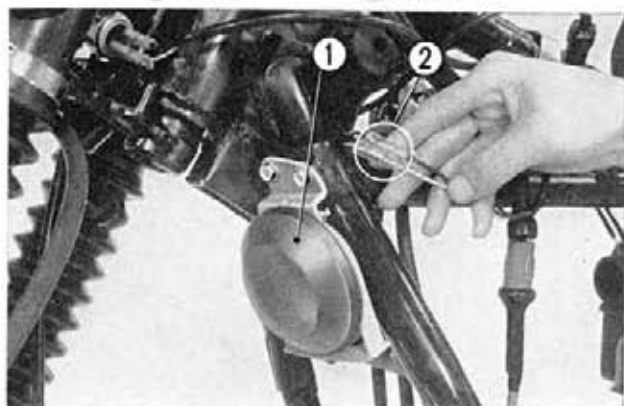

Fig. 16-20 ① Horn ② Lead connectors
1. Disconnect the electrical leads. (Fig. 16-20)
2. Remove the horn by unscrewing the two bolts from the frame. (Fig. 16-20)